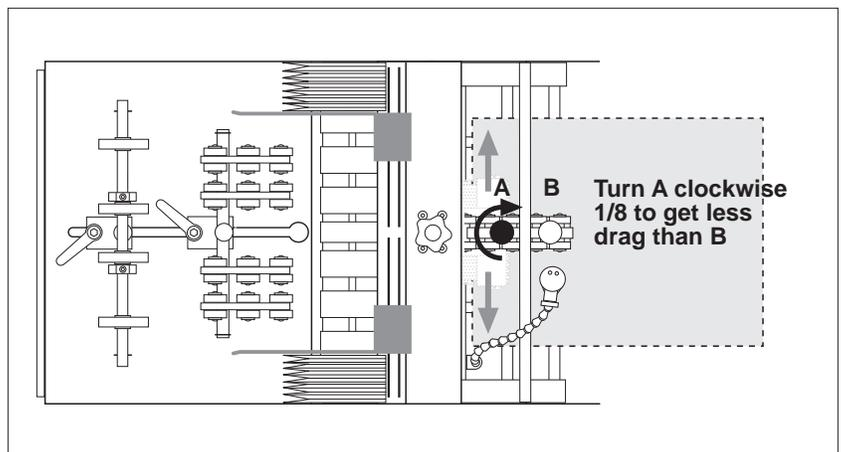

Figure 19. Turning Knob “A” Clockwise to Get Slight Drag
3. Turn knob A clockwise 1/8-turn (Figure 19) so that slightly less drag exists on the roller closest to gate assembly. Again, verify drag by sliding product side-to-side.